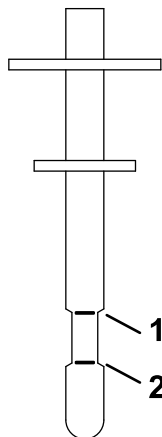

Figure 67
7. Place the dipstick into the filler neck, remove it, and check the fluid level (Figure 67).